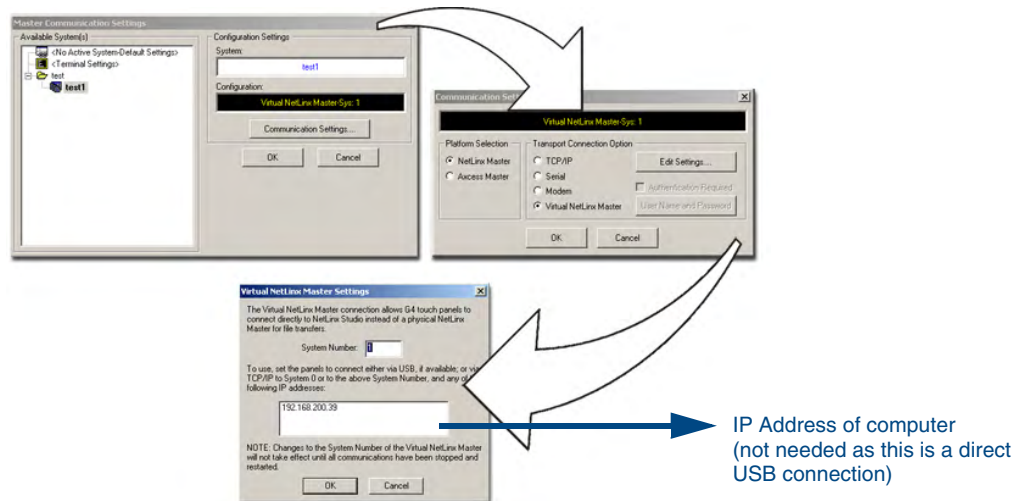

FIG. 36 Assigning Communication Settings for a Virtual Master
2. Select **Settings > Master Communication Settings**, from the Main menu to open the Master Communication Settings dialog (FIG. 36).
6. Click the **Edit Settings** button (on the *Communications Settings* dialog) to open the *Virtual NetLine Master Settings* dialog (FIG. 36).